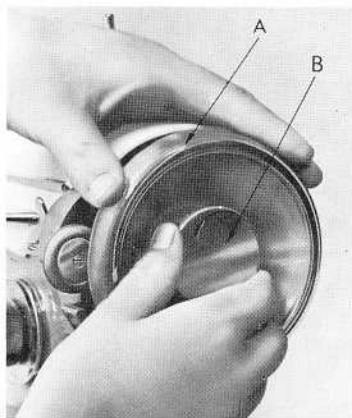

Fig. 7
1. Hold the fly wheel (A) Fig. 7 with the left hand and turn the clutch (B) Fig. 7 toward you to release the clutch. By doing this, the fly wheel turns freely.